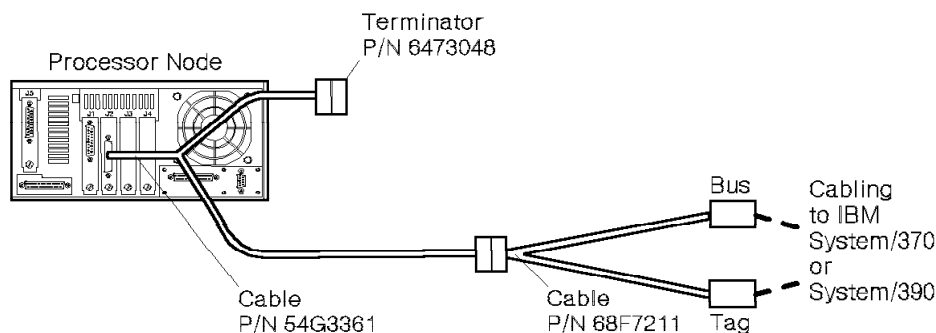

Figure C-9. BMCA Cabling to a Single Processor Node
1. Connect cable part number 54G3361 to the BMCA adapter card that you installed in the processor node as shown in Figure C-9.